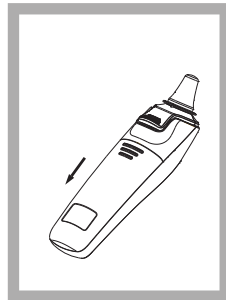

Figure 11
- Slide battery cover down as shown in Figure 11.